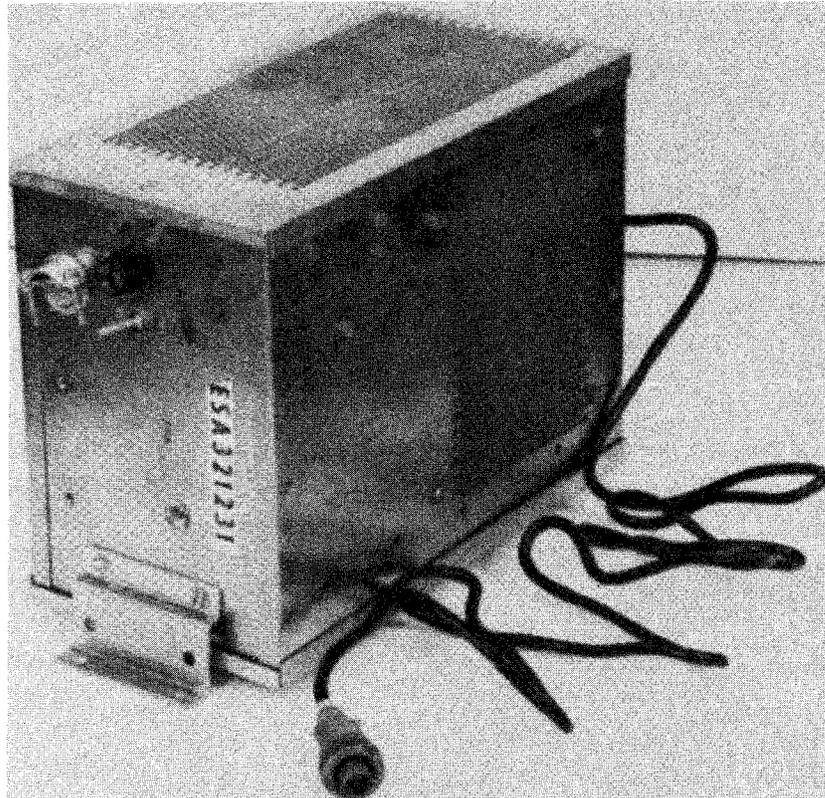

Figure 3-20. Typical ESA for Table Mounting - Double Box Construction
a. General. The TP326792 ESA used in conjunction with low-level transmitter distributors is table mounted and includes a 0.5 ampere power supply circuit card, a low-level keyer (LLK) circuit card, and a clutch magnet driver (CMD) circuit card. A typical table mounted ESA is shown in figure 3-20. Refer to ESA schematic and wiring diagrams in Chapter 5.